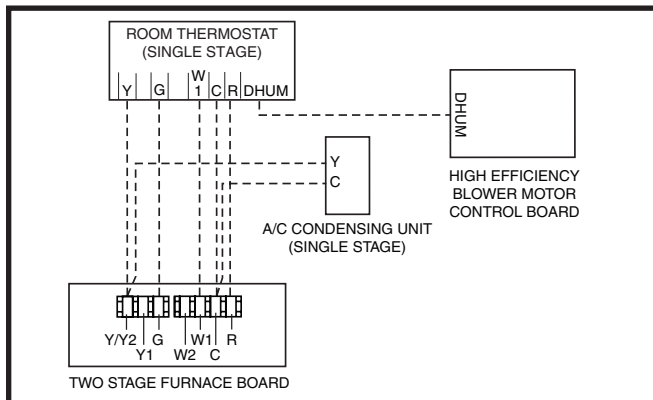
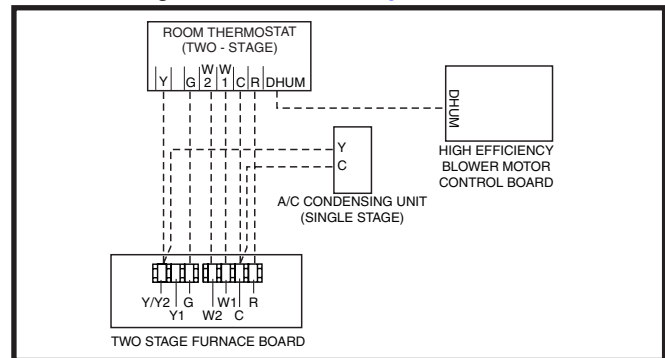
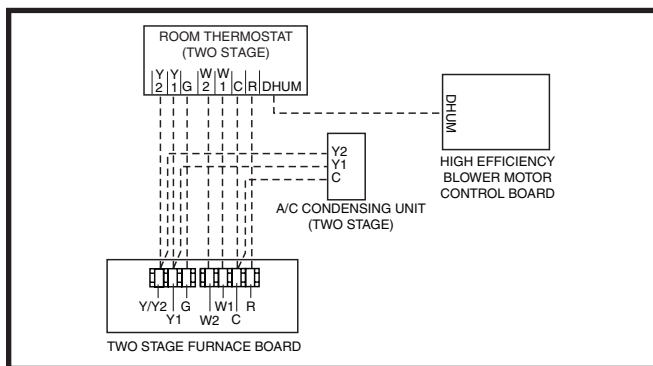

Figure 22. Wiring Configuration 1
Figure 23. Wiring Configuration 2
Figure 24. Wiring Configuration 3
- Connect the thermostat's **W** output to the furnace control boards **W1** terminal. This allows the furnace to always run in low output mode. See Figure 22.
This option uses the full two stage heating capability of the furnace with a single stage outdoor unit. See Figure 23.
This option uses the full two stage heating capability of the furnace with a two stage outdoor unit. See Figure 24.
furnace operation. If Autostage is enabled, the furnace will drop to **LOW** fire after initially starting in **HIGH** fire. After a period of 10 minutes, the furnace will then stage up to **HIGH** fire, until the heating load is met. See Figure 22 and the Low Voltage Connection section on page 23.
- ✓ Verify that all needed thermostat wires are securely connected to the correct leads on the terminal strip of the circuit board. See Figure 22 (page 24), Figure 23 (page 24), & Figure 24 (page 25).
The operating sequences for the heating, cooling, and fan modes are described below. Refer to the field and furnace wiring diagrams: Figure 21 \(page 24\), Figure 22 \(page 24\), Figure 23 \(page 24\), Figure 24 \(page 25\) & Figure 32 \(page 35\), Figure 33 \(page 36\), Figure 34 \(page 37\), & Figure 35 \(page 38\).